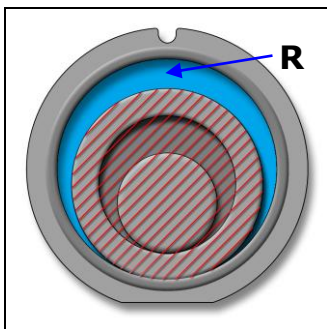

Fig.11 Filling volume of milling cup
- The material to be milled is filled into the space **R** between the milling cup wall and the first ring. For an optimum milling result do not fill any material into the space between the inner ring and disc. (Fig. 11 Filling volume of milling cup)